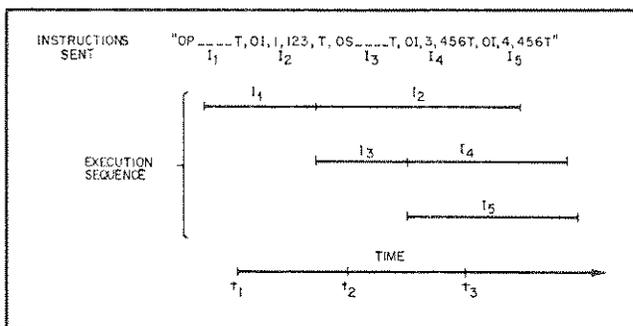

Figure 5-26. Multiple Interrupt Instructions
5-210 Another feature of Interrupt Instructions is that multiple interrupt instructions of the same type will run in parallel with respect to each other. Thus, multiple independent applications can run in parallel using the interrupt instructions. Figure 5-26 illustrates three OI instructions ( $I_1, I_4, I_5$ ) running in parallel. Note that at  $t_2$ ,  $I_4$  will not start until  $I_3$  (an OS) has completed. At  $t_3$ , the three OI instructions are all running in parallel.
**5-211 Restrictions.** As noted in Figure 5-26, once the OI instructions get started, they run in parallel. There are a few restrictions:
1. Interrupt Instructions run in parallel only after they have been started. The OI and II instructions are started following the rules of the current mode. In the serial mode, no other instructions can be executing (except other interrupt instructions that were already started) when an OI or II instruction is started. Thus in Figure 5-26,  $I_4$  will not start until after  $I_3$  has completed.